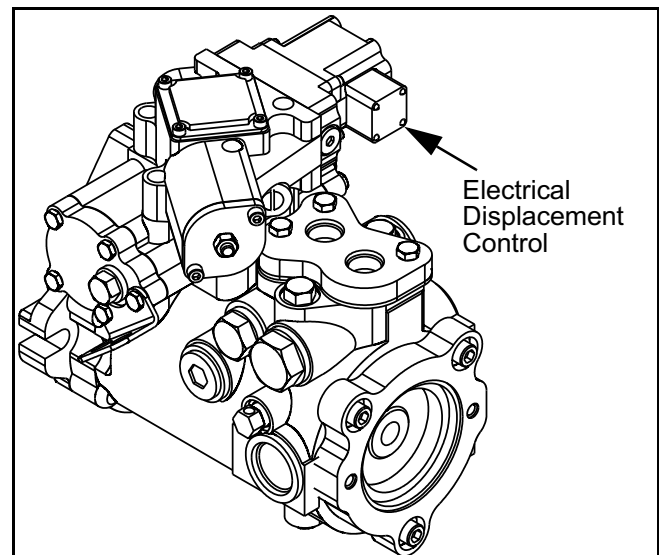

Figure 5 - 11 Electrical Displacement Control
- 7) Disconnect the Electrical Displacement Control at the pump controller. (Figure 5 - 11)